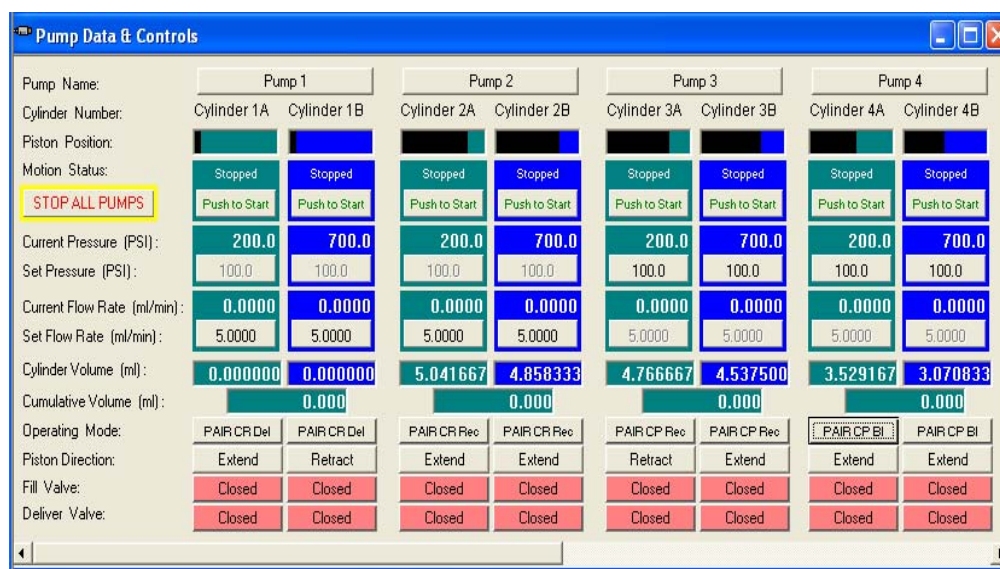

Figure 6C, Pump 4 Piston Position for Bi-Directional Mode
12. Bi-directional mode is used when the application requires that the pump be capable of delivering AND receiving fluids at a pressure set point. Pumps operated in Bi-Directional Pressure Mode should have their pistons set at 50% extended position for correct start-up. See Figure 6C, and look at the graphical piston position bar located at the top of the Pump Data and Control window for pump 4 (Bi-Directional Mode) for an example of proper piston position for this mode.